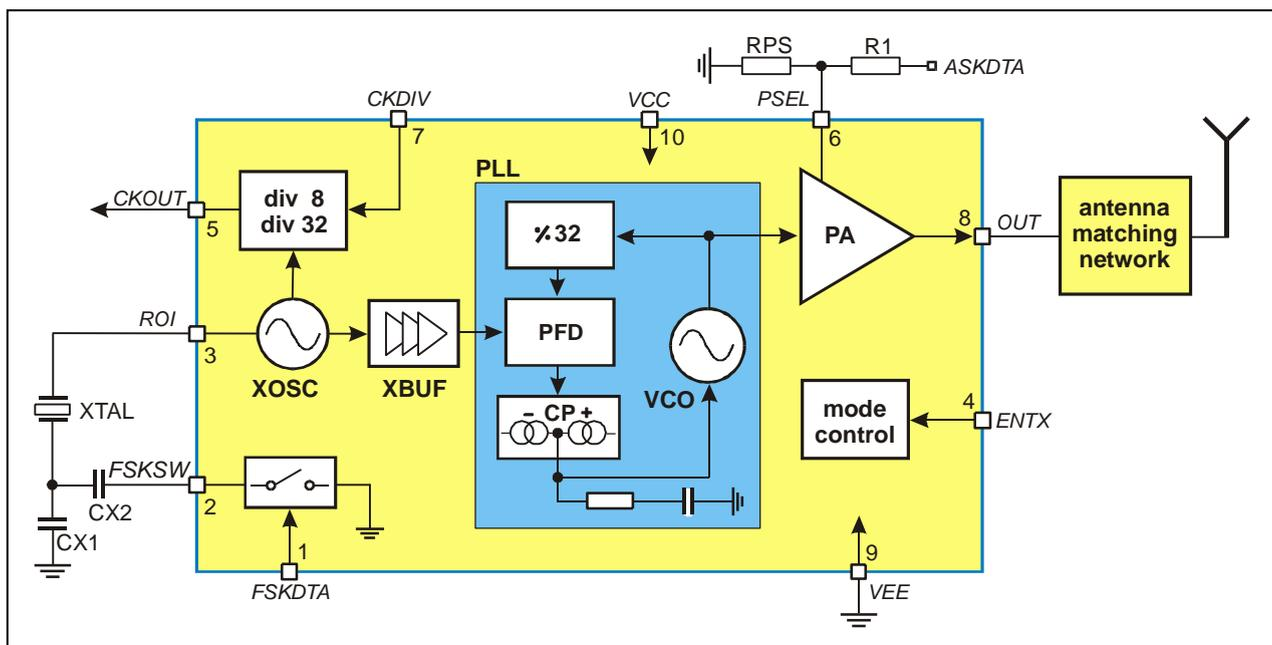

Fig. 1: Block diagram with external components
As depicted in Fig.1, the TH72036 transmitter consists of a fully integrated voltage-controlled oscillator (VCO), a divide-by-32 divider (div32), a phase-frequency detector (PFD) and a charge pump (CP). An internal loop filter determines the dynamic behavior of the PLL and suppresses reference spurious signals. A Colpitts crystal oscillator (XOSC) is used as the reference oscillator of a phase-locked loop (PLL) synthesizer. The VCO's output signal feeds the power amplifier (PA). The RF signal power  $P_{out}$  can be adjusted in four steps from  $P_{out} = -11$  dBm to +9.5 dBm, either by changing the value of resistor RPS or by varying the voltage  $V_{PS}$  at pin PSEL. The open-collector output (OUT) can be used either to directly drive a loop antenna or to be matched to a 50ohm load. Bandgap biasing ensures stable operation of the IC at a power supply range of 1.95 V to 5.5 V.